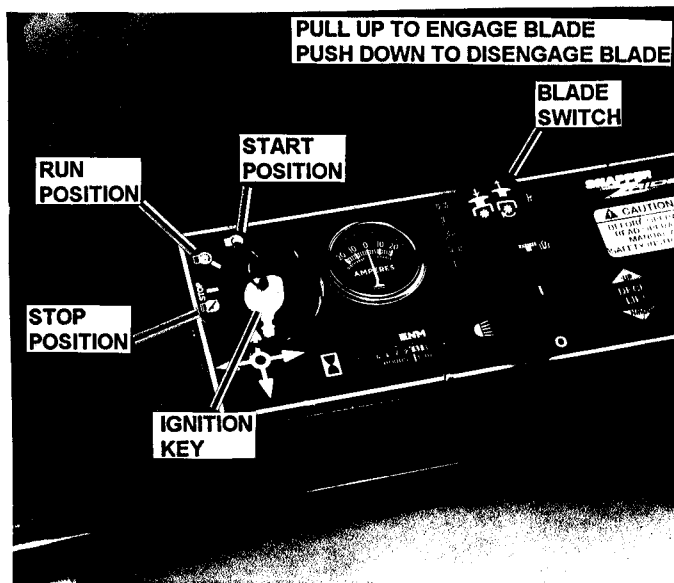

FIGURE 2.6
6. Turn key to the start position until engine starts. See Figure 2.6.
1. Stop engine by turning key to the "OFF" position. Refer to Figure 2.6.
1. Push the blade switch in or "OFF" position to disengage or stop the mower blades. Refer to Figure 2.6.